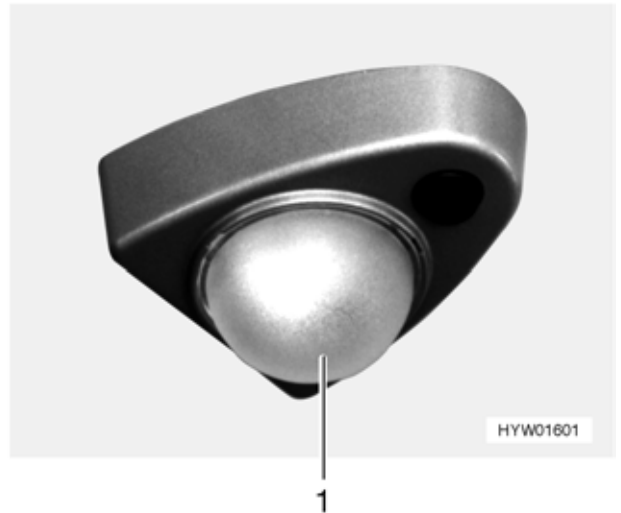

Fig. 162 Spotlight (variant 1)
- Turn the glass (Fig. 162,1) in a clockwise direction using two fingers.